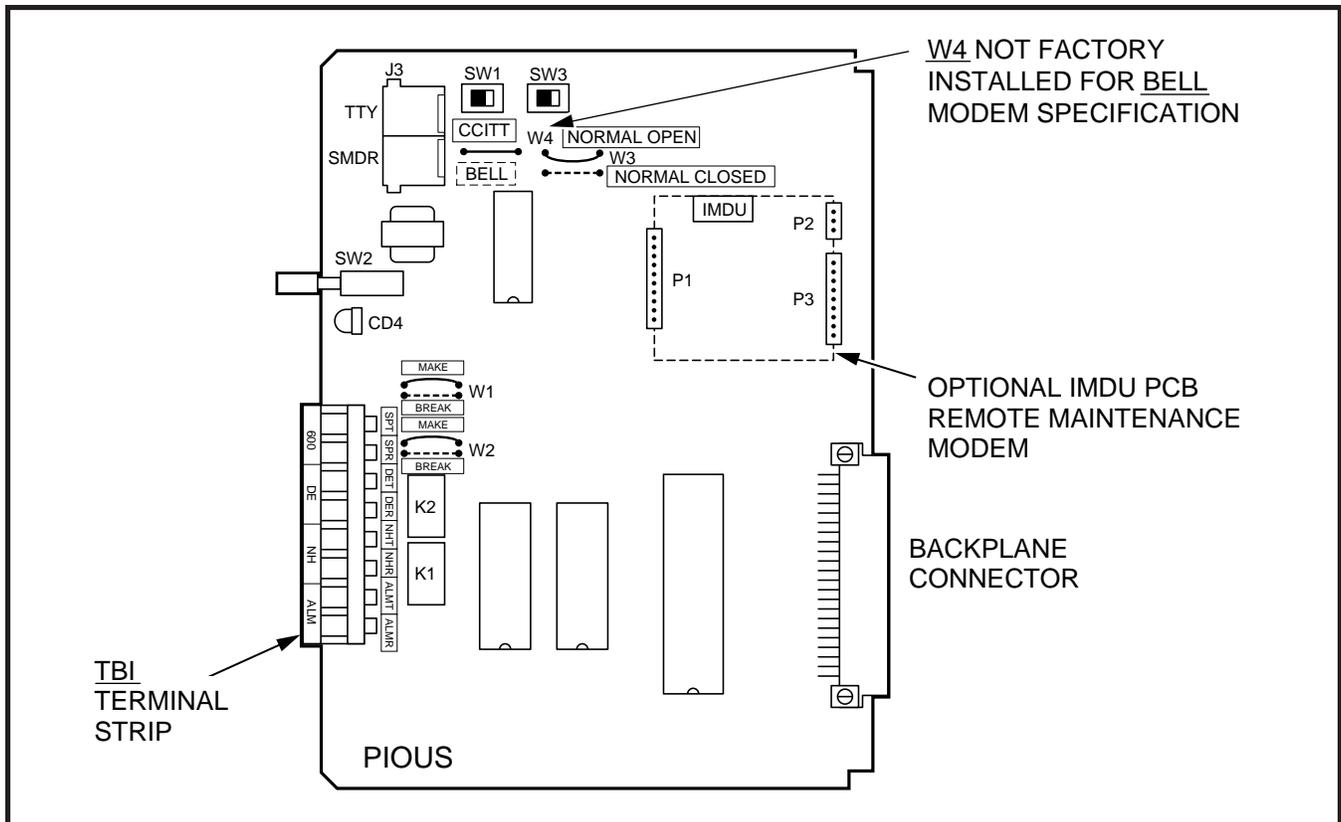

FIGURE 6-12
10.02 PIOU controls, indicators, and interface connectors are shown in Figure 6-11 and described in Table 6-G. PIOUS information is provided in Figure 6-12 and Table 6-H.